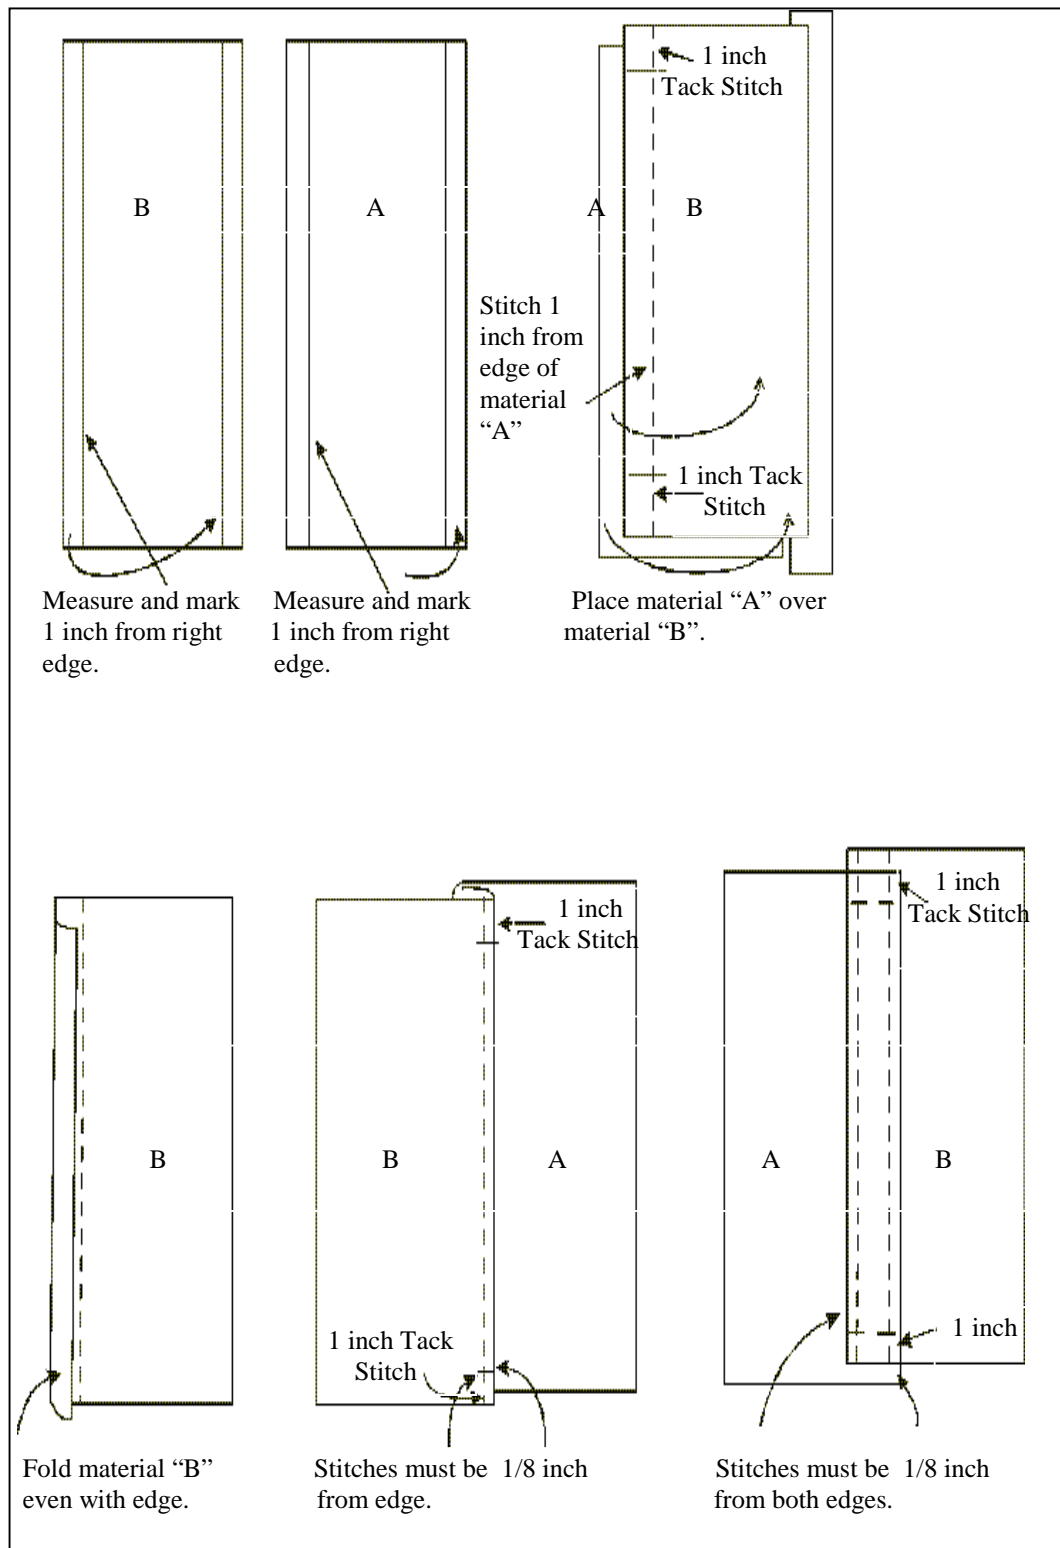

Figure 8-8. Double-felled seam
e. Double-Felled Seam. The double-felled seam (Figure 8-8) is similar in appearance to the double-lapped seam used on clothing. This seam is used to join two pieces of canvas when the outside and the inside of the seam have to be finished with no exposed raw edges. To make a double-felled seam--
- (1) Place piece A faceup on a worktable.
- (2) With a ruler and chalk, mark a chalk line 1 inch from and parallel to the left edge.
- (3) Place piece B facedown on a worktable.
- (4) With a ruler and chalk, mark a chalk line 1 inch from and parallel to the left edge.
- (5) Place piece B facedown on piece A. Align the left edge of piece B with the chalk line of piece A.
- (6) Tack the beginning of the seam, and sew the two pieces of canvas together by stitching a seam on the chalk line of piece B. Tack the end of the seam.
- (7) Fold the left edge of piece A up and over to the left on the stitch row of B.
- (8) Fold the right side of piece B up and over to the left on the seam line so that both pieces are faceup.
- (9) Tack the beginning of the seam, and sew a row of stitches  $\frac{1}{8}$  inch to the left of the folded edge. Tack the end of the seam.
- (10) Turn both pieces of canvas over so that they are facedown.